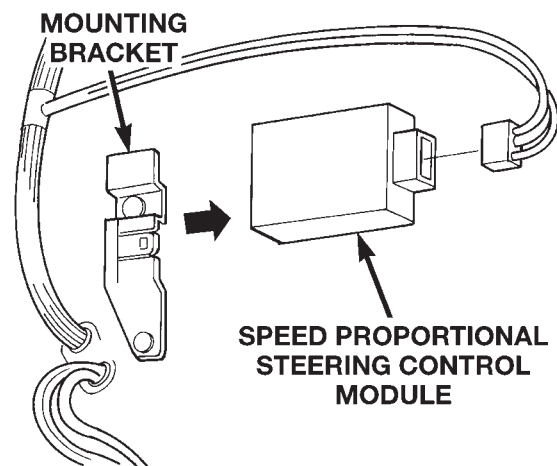

Fig. 5 Speed Proportional Steering Control Module
- (1) Unplug harness from control module, located left of steering column on front cowl panel.
- (2) Slid the module off mounting bracket (Fig. 5).